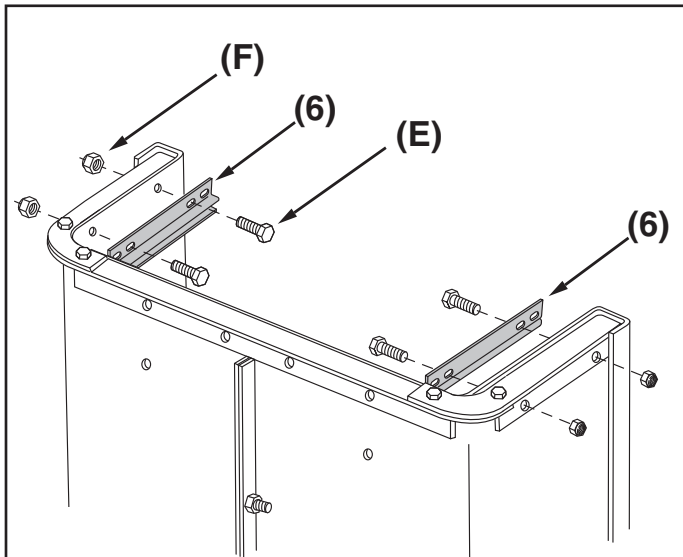

FIGURE 6
STEP 6: (SEE FIGURE 6)
- Attach the tailgate guides (6) using four 1/4" x 3/4" hex bolts (E) and 1/4" nylock nuts (F).